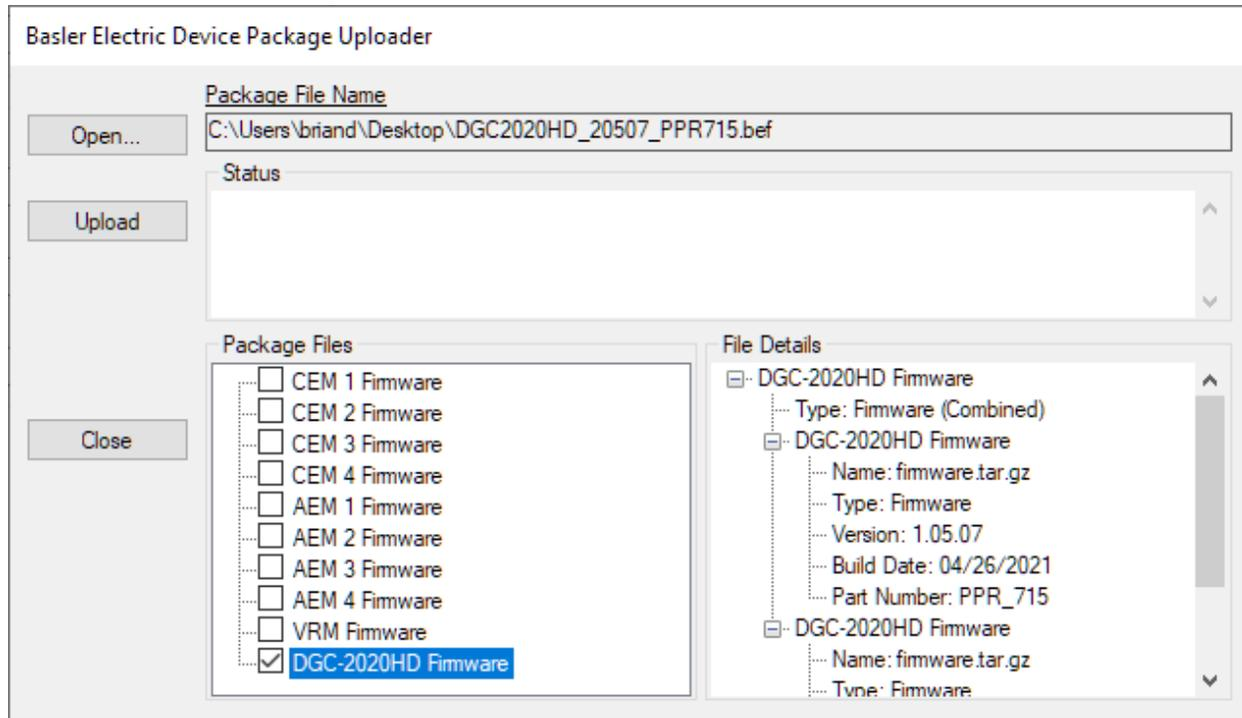

Figure 1-3. Basler Electric Device Package Uploader
7. When the Basler Electric Device Package Uploader screen (Figure 1-3) appears, click on the Open button to browse for the device package you have received from Basler Electric. The Package Files along with File Details are listed. Place a check in the boxes next to the individual files you want to upload.